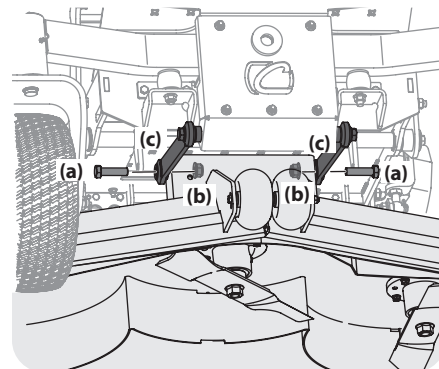

Figure 4-20
5. Remove the hex screws (a) and flange lock nuts (b) securing the front deck control rods (c) to the deck. See Figure 4-20.